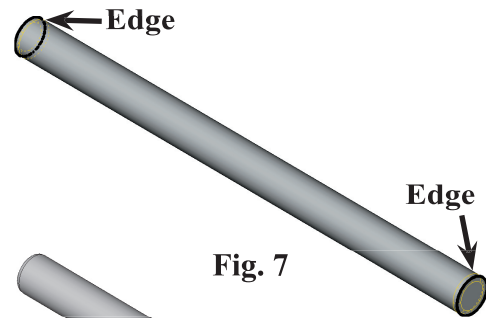
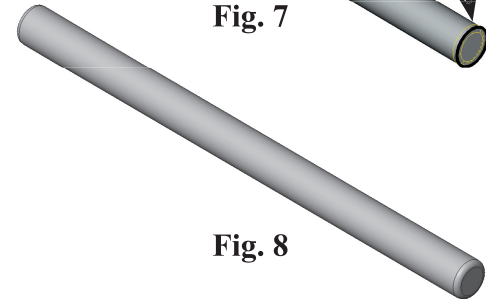

Fig. 7
Fig. 8
Step 3. Click the edges at both ends of the axle and click OK  in the Property Manager, **Fig. 7** and **Fig 8**.